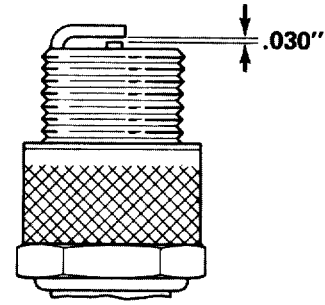

Figure 14
4. Set air gap between center and side electrodes at 0.030 of an inch (Fig. 14). Install correctly gapped spark plug w/gasket seal, and tighten plug to 20 ft-lb. If torque wrench is not used, tighten plug firmly.